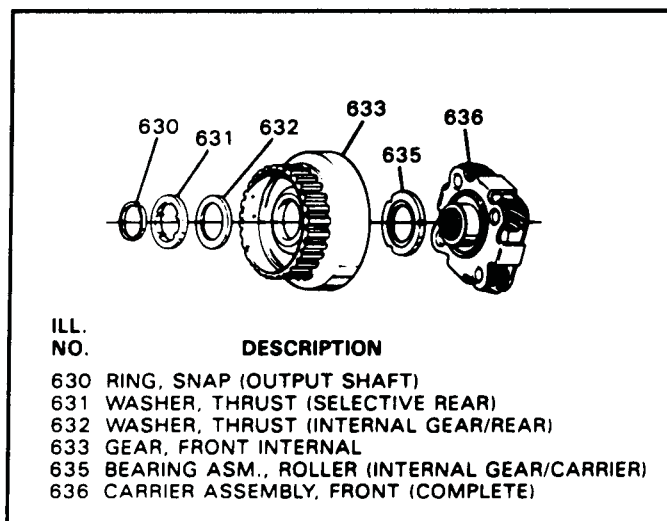

Figure 81
49. Install the front internal ring gear and hub into the transmission by rotating into position (See Figure 81).
50. Install thrust washer (632) over the output shaft and onto ring gear (See Figure 81).
51. Install the *selective* thrust washer (631) on top of the previous washer, with the identification number facing up (See Figure 81).
52. Install the snap ring on the output shaft using a pair of snap ring pliers and ensure it is seated. (See Figure 81).